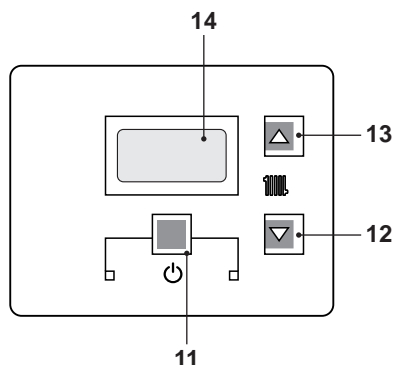

Fig. 7.6
- Press the 11 key for 2 seconds until the **|||||** symbol appears on the display (Fig. 7.6).
- Switch off the boiler by pressing the 11 (Fig. 7.6) key for 2 seconds until the  symbol appears on the LCD display (Fig. 7.5).
Press the reset key on the boiler control panel 11 (Fig. 7.6) to reset its functioning.